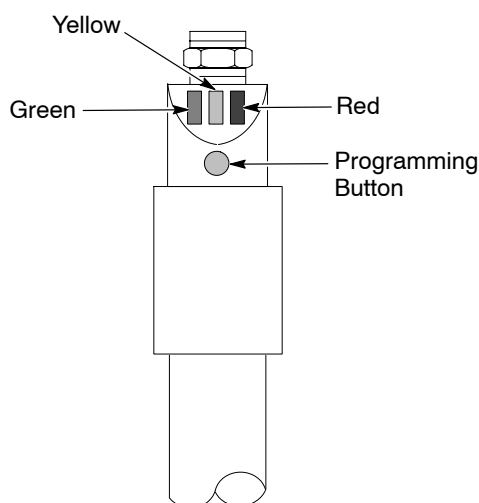

Figure 4-11 Programming the One Button Level Sensor Probe
3. See Figure 4-11. Press the programming button until the green LED flashes slowly, then release it. When the green LED stops flashing and the yellow LED turns off, the level sensor is programmed for Empty.
2. See Figure 4-11. Press the programming button until the green LED flashes quickly, then release the button.